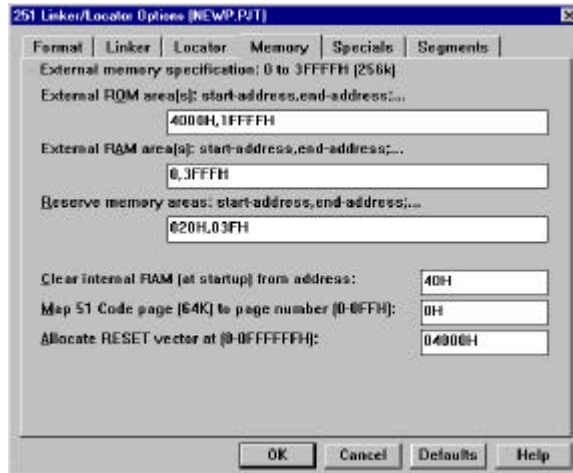

Figure 11 Linker/Locator Configuration
- Open the EDE menu and choose Linker Options... There is also a Memory tab inside the Linker Options dialog. This tab is very important, since here you specify where your external ROM and RAM areas are, which memory areas must be reserved and more. Figure 11 shows the settings for the 8x930 USB evaluation
The other fields of the tab contain values needed when building a C application for the 8x930 Family Evaluation Board. Since this tutorial is an assembly application with absolute segments (and not using any system startup code), you can omit these entries. However, we recommend configuring all the options as shown in Figure 11.
- Configure the options in the tabs as shown in Figure 11 and press OK.